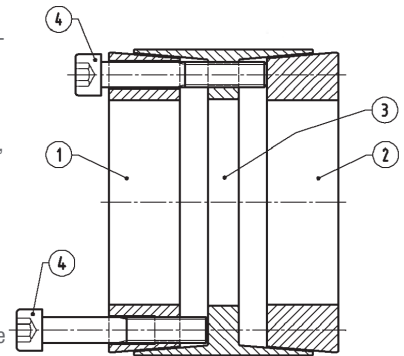

Figure 2
### REMOVAL (Refer to Figure 2)
2. Remove all locking screws. Transfer required number of screws into all push-off threads of clamp collar Item 1 (see Figure 2).
4. Transfer locking screws used for dismounting of clamp collar Item 1 into all push-off threads in center collar Item 3 (see Figure 2). Release clamp collar Item 2 by repeating procedures outlined in Step 3.